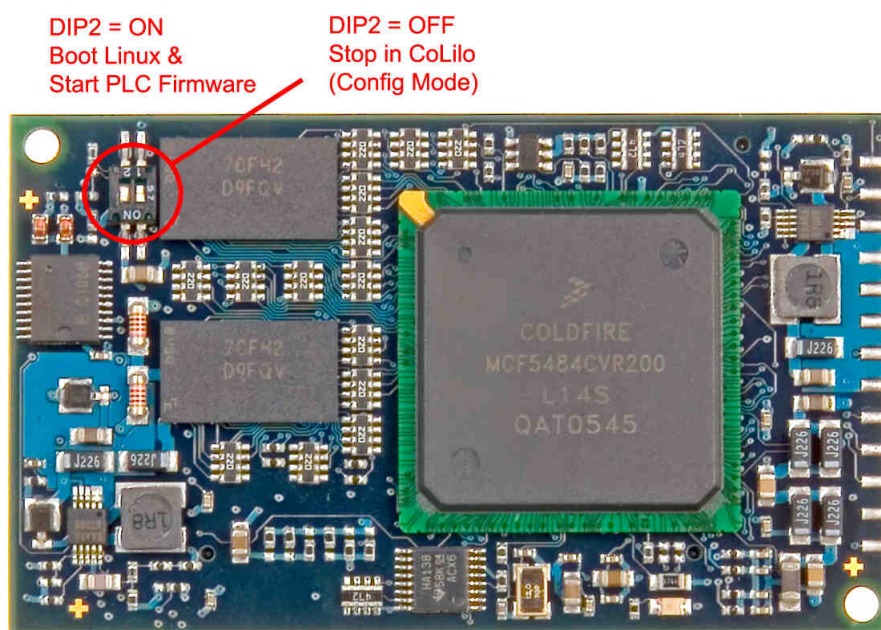

Figure 4: Position of the DIP-switch 2 on the ECUcore-5484
For configuring the ECUcore-5484, the DIP-switch 2 on the ECUcore-5484 must first be set to position “Off” (see Figure 4).
**To restart the Linux of the ECUcore-5484 after finishing the configurations, the DIP-switch 2 on the ECUcore-5484 is to be put back into position "On" (compare Figure 4).**